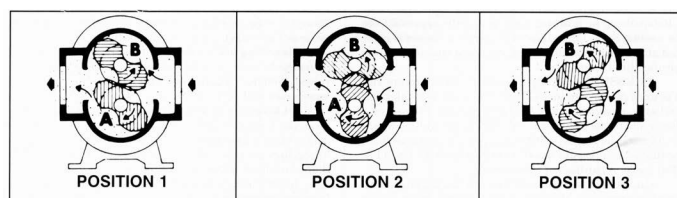

Figure 1 - Flow Through a Basic Type RAS Blower
Operation of the RAS rotary lobe blower is illustrated in Figure 1, where air flow is from right to left from inlet to discharge, with the lower impeller rotating clockwise. In Position 1, it delivers a known volume (A) to the discharge, while the space (B) between the upper impeller and cylinder wall is being filled. Counterclockwise rotation of this impeller then traps an equal volume (B) in Position 2, and further rotation delivers it to the discharge in Position 3. At the same time, another similar volume is forming under the lower impeller, and will be discharged when rotation reaches Position 1 again.